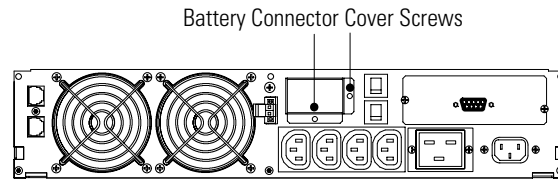

Figure 12. Battery Connector Cover (230V UPSs Only)
5. 230V UPS models have a battery connector cover that must be removed before installing the EBM(s). Remove the cover from the rear panel as shown in Figure 12.